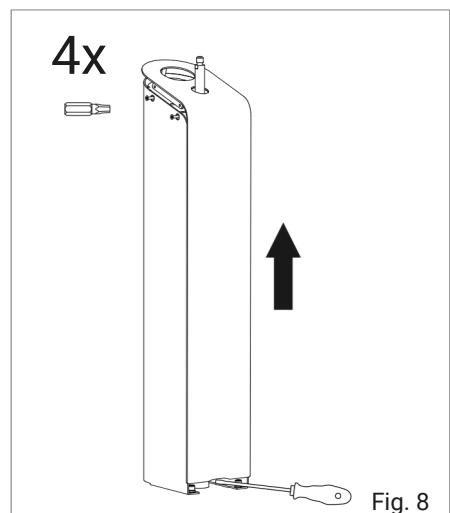

Fig. 8
- 2 Then loosen the four M4 Torx safety screws (17) on the anthracite-colored housing half (18) using the appropriate safety bit (4) (Fig. 8).
- 3 There is a shallow slot at the bottom of the air pump casing (19). Carefully insert a slotted screwdriver into this slot (Fig. 8). Release the plate from the lock by pushing it slightly upwards. You can then push the plate further up by hand and remove it.